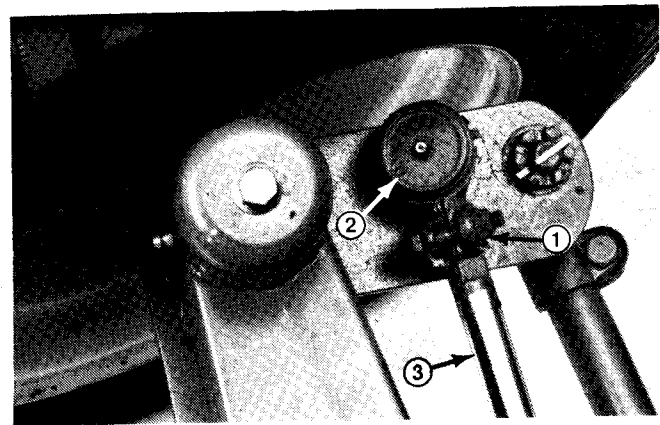

Figure 14
1. If adjustment is required, loosen clamp (Fig. 14).